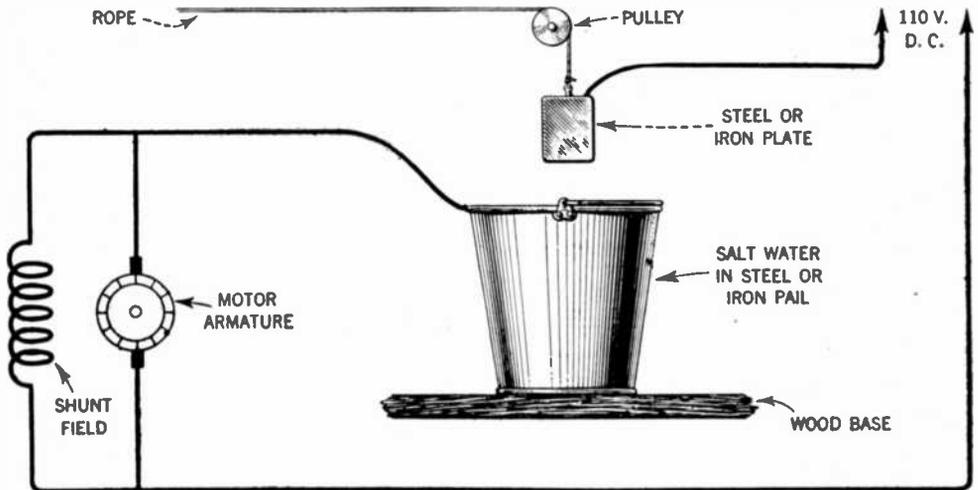

FIG. 77.—A water rheostat may be employed as an emergency starting resistance as shown in this illustration.
*Answer.* A water rheostat, as shown in Figure 77, could be employed. By means of a rope and pulley the iron or steel plate should be slowly lowered into the salt water, permitting it to get nearer to the bottom of the metal pail as the motor picks up speed. When the motor has gained full speed the iron or steel plate should rest on the bottom of the pail. The metal pail should rest on a dry wooden base to prevent possible short-circuit.